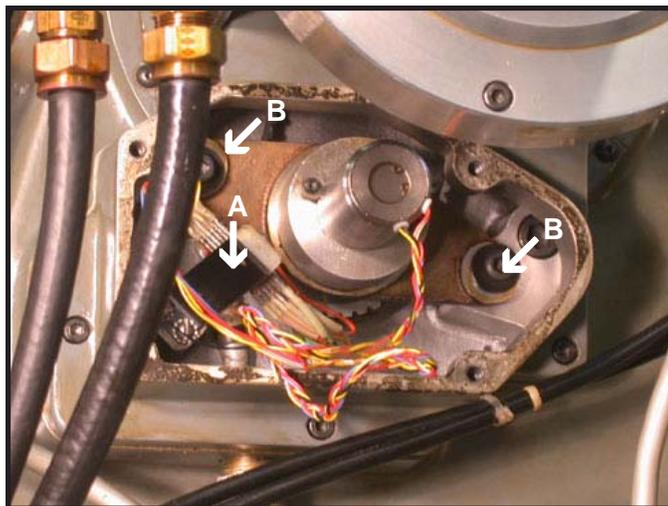

Figure 3.5.2
2. encoder wires done the same as the CHNC ... see Section 3.5, figures 3.5.2, 3.5.3 and 3.5.4